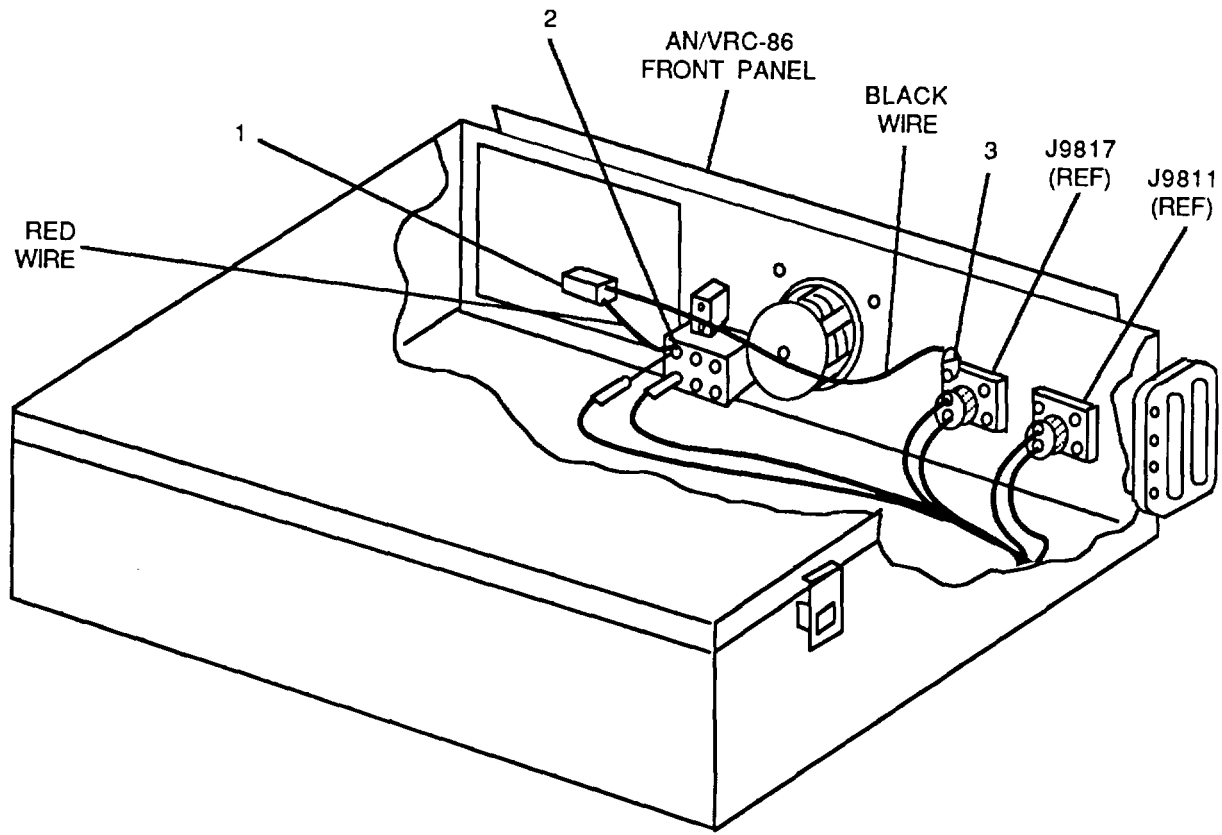

Figure 3-12. Installation of Fan Power Cable
- (1) Refer to figure 3-12. Solder red lead of 22373/155-02707-0000 fan cable assembly (1) to E111 (2) on rear of electronics box POWER ON/OFF switch.
- (2) Solder black lead of 22373/155-02707-0000 fan cable assembly (1) to ground lug (3) on back of electronics box connector J9817.